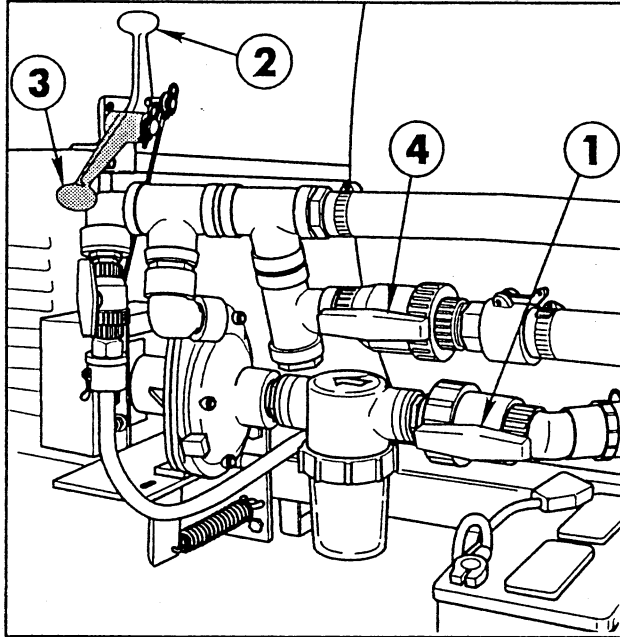

FIG. 4
1. Fill the Tank with water and open the Suction Line Valve. See FIG. 4.